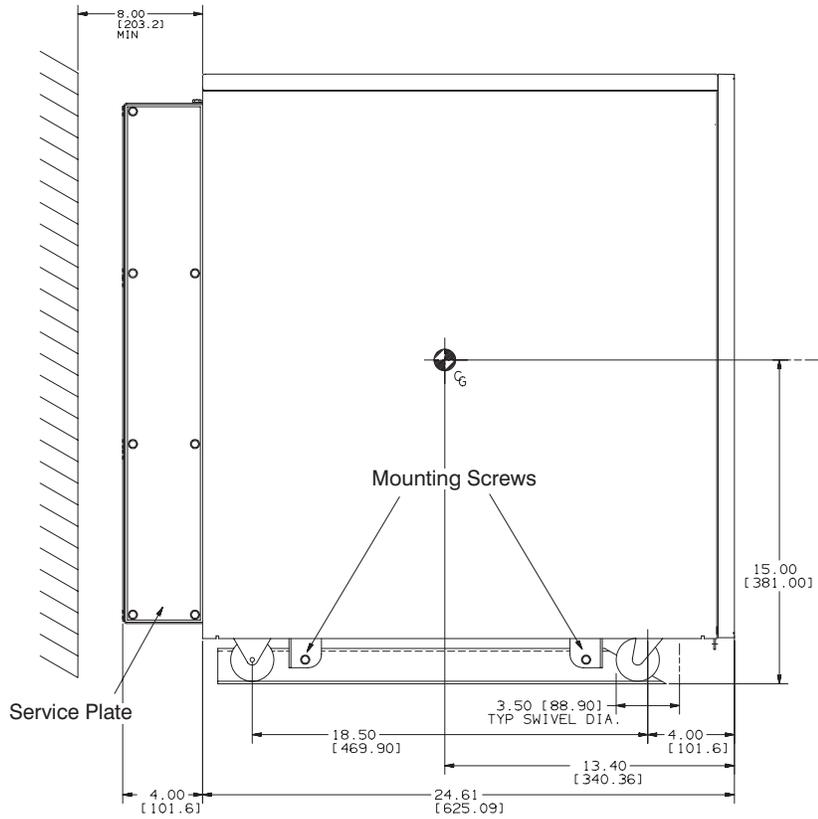

Figure 7. Securing the UPS Cabinet and Mounting Plate
- Using the 5/16" bolts you took out when unloading each cabinet, bolt each cabinet to the mounting plate as shown in Figure 7.